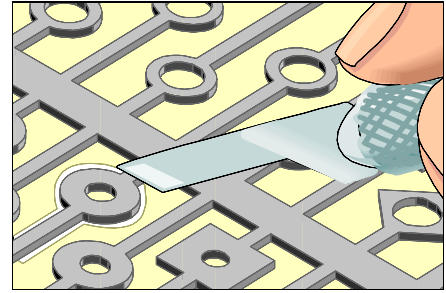

Figure 4: Cut out the new land. Cut from the plated side.
10. Cut out and trim the new land. Cut out from the plated side. Cut the length to provide the maximum allowable circuit overlap for soldering. Minimum 2 times the circuit width. (See Figure 4).